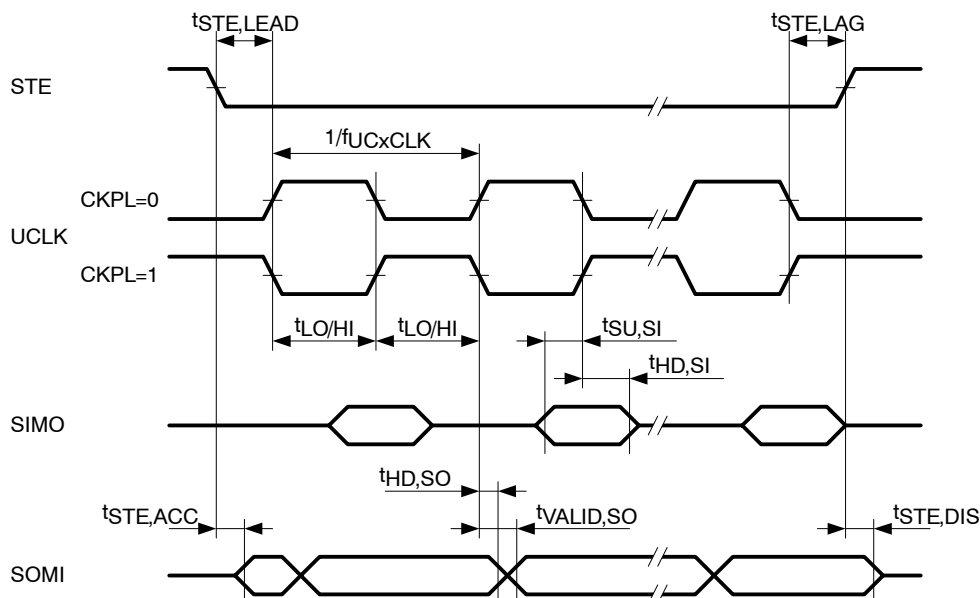
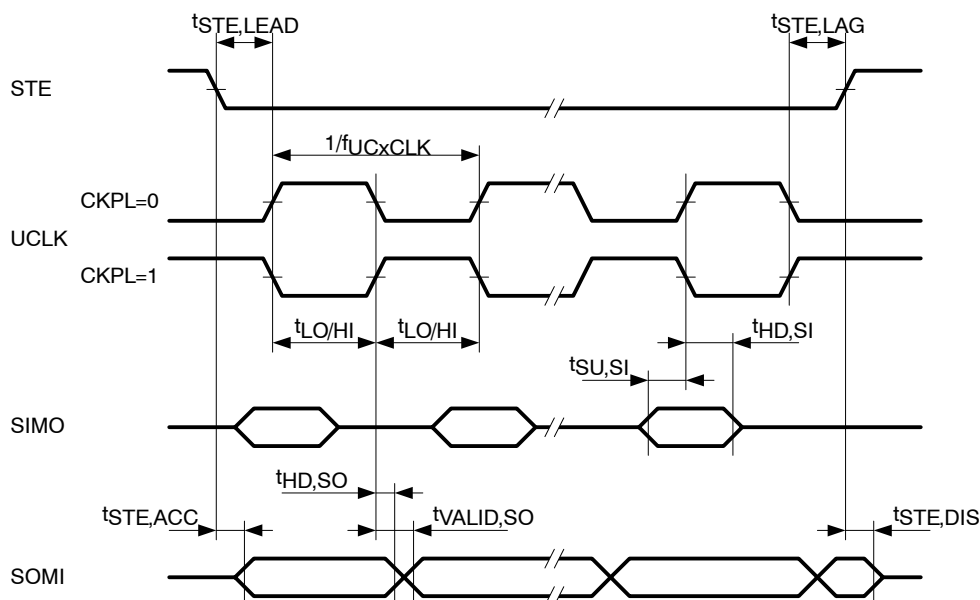

Figure 23. SPI Slave Mode, CKPH = 0
Figure 24. SPI Slave Mode, CKPH = 1
USCI (SPI slave mode) (see Note 1, Figure 23, and Figure 24)
- Specifies the time to drive the next valid data to the SOMI output after the output changing UCLK clock edge. Refer to the timing diagrams in Figure 23 and Figure 24.
- Specifies how long data on the SOMI output is valid after the output changing UCLK clock edge. Negative values indicate that the data on the SOMI output can become invalid before the output changing clock edge observed on UCLK. Refer to the timing diagrams in Figure 23 and Figure 24.